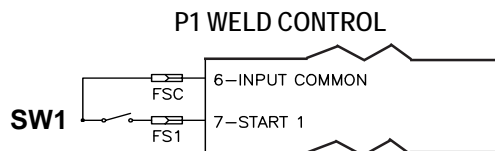

Figure 9-36. *Control input connection*
1. Connect initiation switch SW1 to connector P1 as shown in Figure 9-36.
1. Connect initiation switch SW1 to connector P1 as shown in Figure 9-36 (see Section 9.9.1).